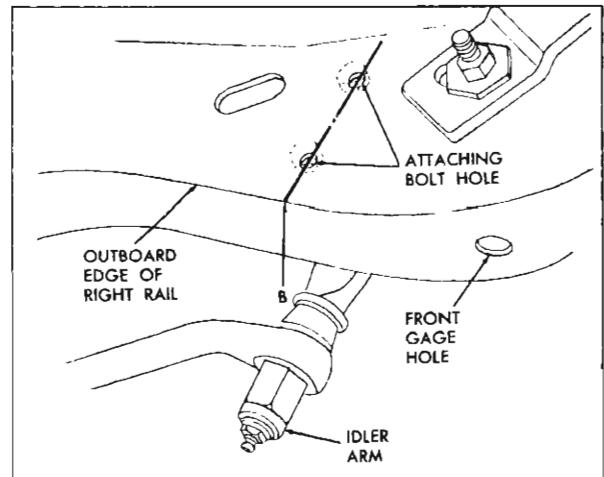

Fig. 11-2 Underbody Vertical Reference Point ("B")
- a. Front gage hole in lower surface of motor compartment side lower rail Fig. 11-2 and 11-3.
- b. Outboard lower edge of motor compartment right side rail on centerline drawn through idler arm attaching bolt holes Fig. 11-2.